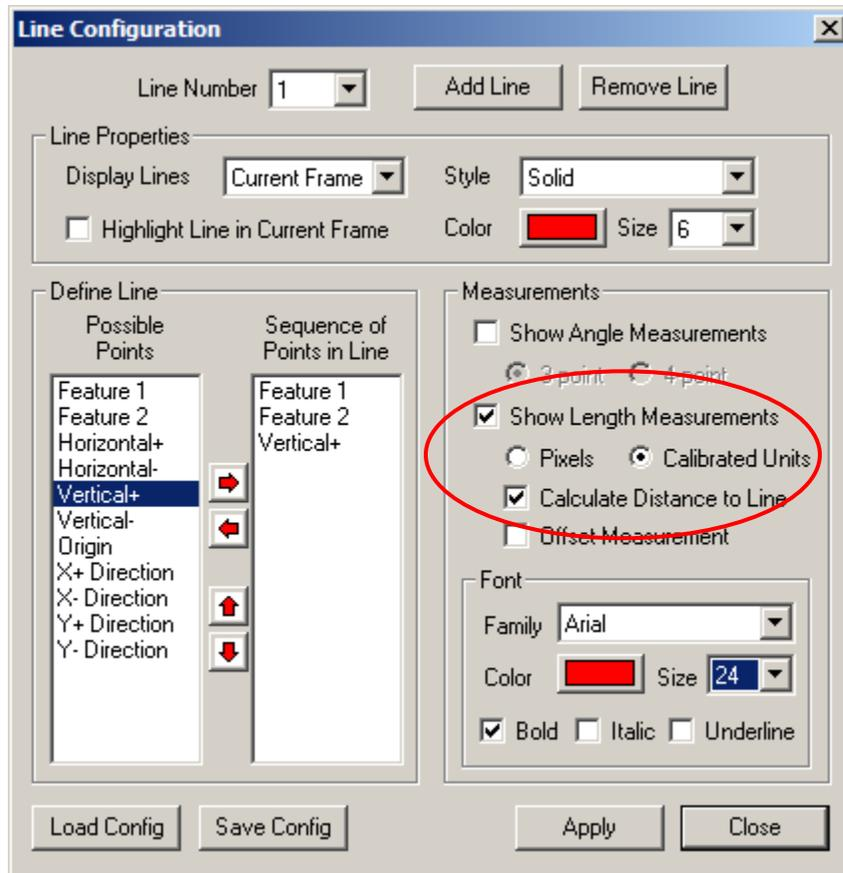

Figure 7. Line Configuration window with Measurements selected
17. Click **Configure** to display the Line Configuration window, shown in Figure 7.